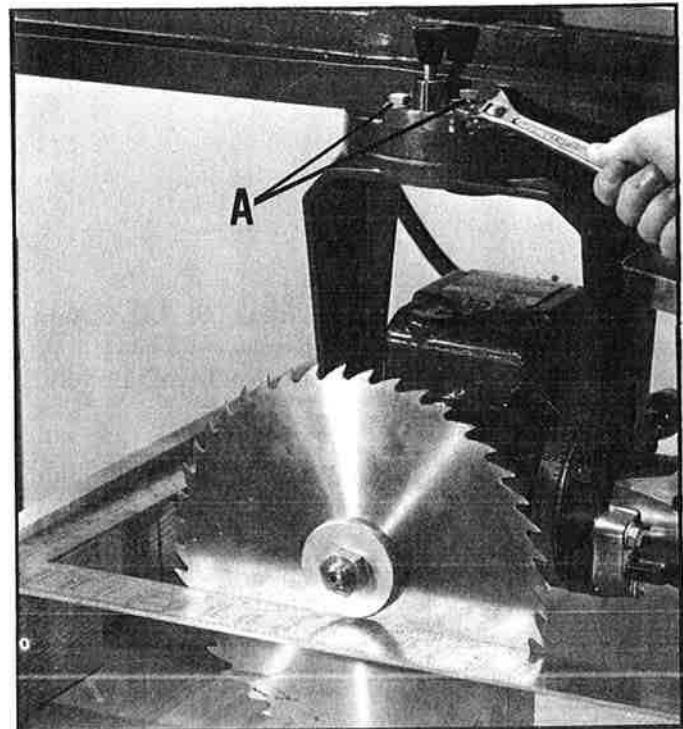

Fig. 32
3. If the blade is not parallel to the square, an adjustment is necessary. Loosen yoke clamping handle and the two screws (A) Fig. 32. Swivel the yoke until the saw blade is parallel with the square. Then tighten yoke clamping handle and the two screws (A) Fig. 32.